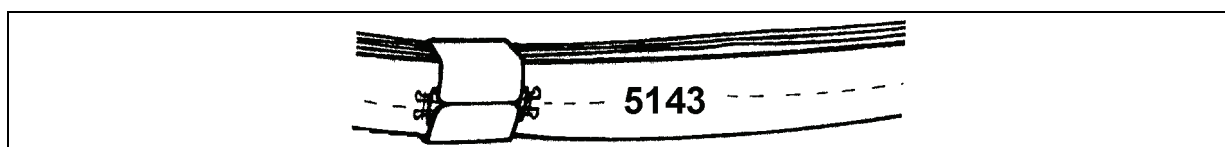

Figure 6-28. Sample of Inspection Date Marking
- Inspection.** The unit can conduct its own inspection. Each nylon and chain multileg sling must be marked with 1-inch letters showing the date that the set was first placed in use (Figure 6-28). This means the first day the sling is used, not the day of issue. The marked date is used in determining when the next required inspection is due. Although the slings are routinely inspected before and after each use, they must be thoroughly inspected every 6 months.
If the sling is found satisfactory for further use, the old date is marked over and the new date applied. The date can be the calendar date or Julian date as shown in Figure 6-28. The dates will be applied using either orange-yellow parachute marking ink, orange tube-type marker, strata blue parachute marking ink, or strata blue tube-type marker. If the old date was marked with strata blue, mark over the area with strata blue ink and apply the new date using orange-yellow ink. Do just the opposite if the old date was marked with orange-yellow ink. Only one date should appear on the sling. An alternate method for recording the inspection date is to attach a metal tag to the sling set to identify the last inspection date.